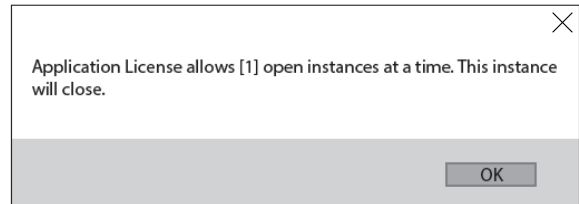

Figure 14: Application License Error Message
- The **Text Import Wizard** dialog box (Figure 14) will appear. Select **Delimited** then click next.